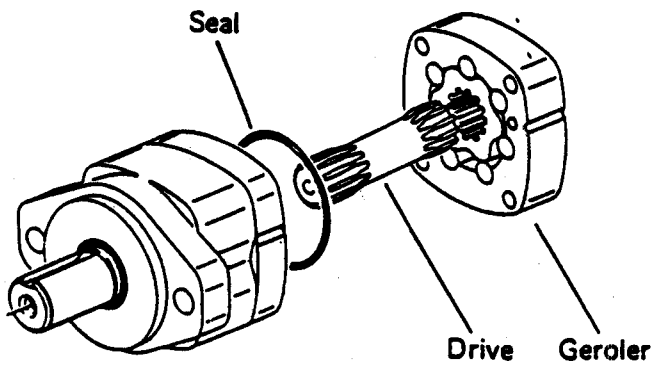

Figure 12.
- 15 Remove the 3[76] diameter seal from wear plate, see Fig. 12.